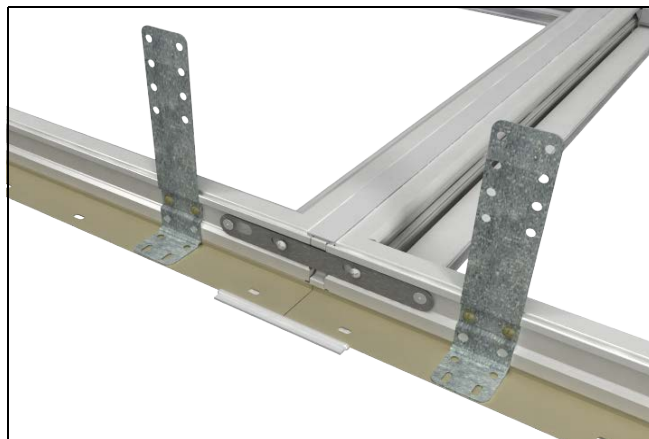

Figure 15
3. At jamb and head jamb mullion joints, install 90-degree bent structural brackets on both sides of the mull within 6" (152) on both ends. DO NOT apply 90-degree bent brackets to sill. Follow the instructions sent with the brackets. See Figure 15.